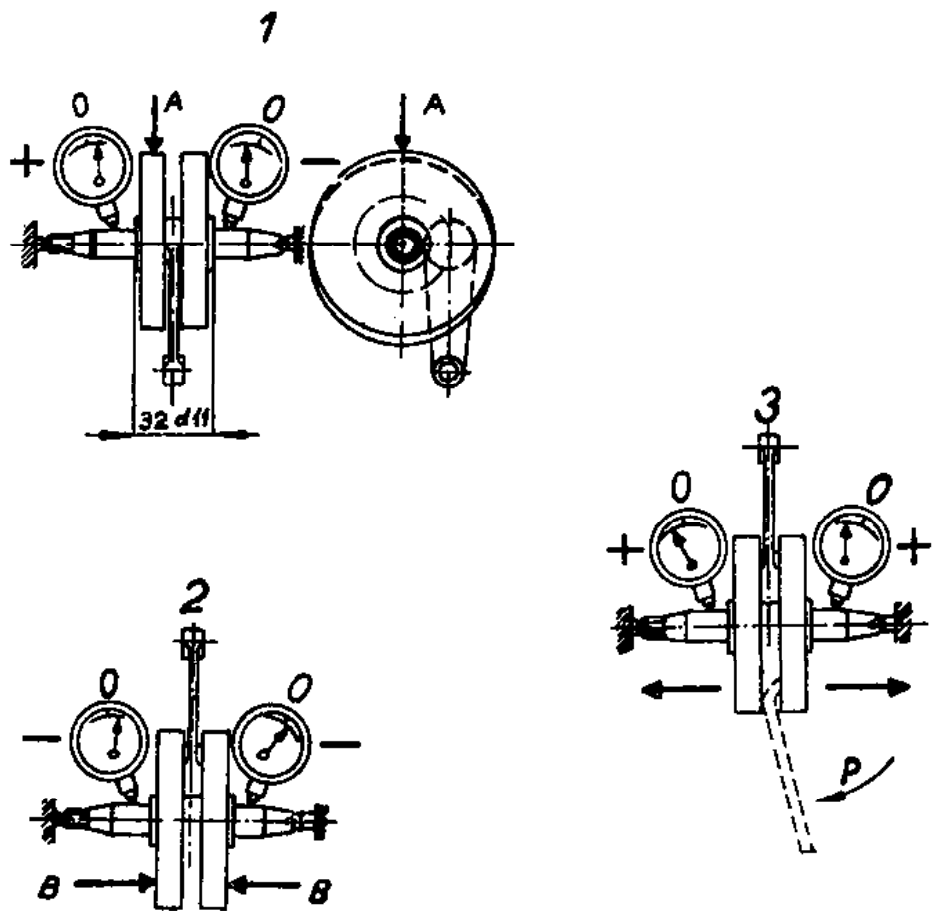

Fig. 35
Pull out the guide (6, fig. 32) of the shift fork (5). Pull out the main shaft (1, fig. 33), the gear, 20 teeth (4), the shift fork, the countershaft (2) together with a pinion (3) and the gear, 18 teeth (14). Detach the return spring (15) of the start shaft (12) from the catch in the R. H. box half and disengage the start with segment (13). From the upper part of the R. H. box half unscrew the M6×18 screw (13, fig. 32) fixing the gear shift automatic (1) with R. H. box half and remove the automatic. Dismantle the secondary transmission gear and pull out the gear with hub (5, fig. 35) by knocking with a wooden hammer.
it jointly onto the crank pin which is then pressed onto the R. H. flywheel. Insert the needles (7) into the cage and carry out the pressing of the crank mechanism. On pressing the crankshaft with help of angle straighten the R. H. (2) and L. H. (3) halves of the crankshaft so as to keep the approximate alignment of both crankshaft parts. Having pressed-in the shaft, center it in the following way (fig. 35):